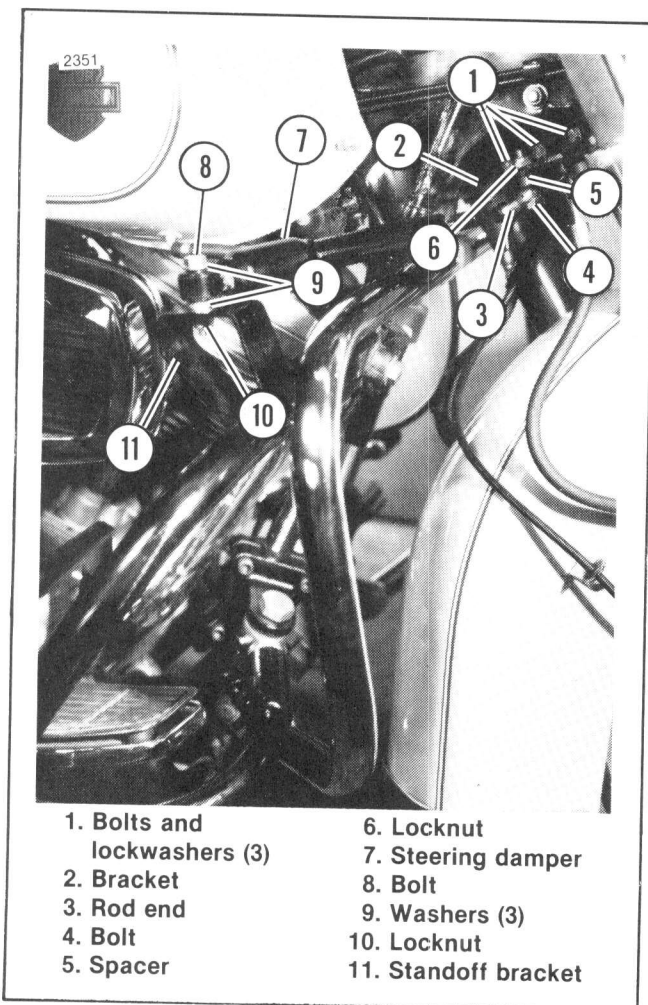

Figure 6-11. Steering Damper Mounting
1. See Figure 6-11. Remove air baffle, Part No. 58520-79, from under forks. Retain the 3 bolts and lockwashers (1). Install bracket (2), Part No. 87143-83, using the 3 bolts and lockwashers removed above.
2. Install rod end (3) to threaded end of steering damper. Attach to bracket with bolt (4), spacer (5)
1. See Figure 6-11. The large end of steering damper can be adjusted in the slot in the standoff bracket. Rod end of steering damper is adjusted by removing bolt (4) and turning rod end (3) in or out.
5. See Figure 6-11. Disconnect steering damper from under forks.